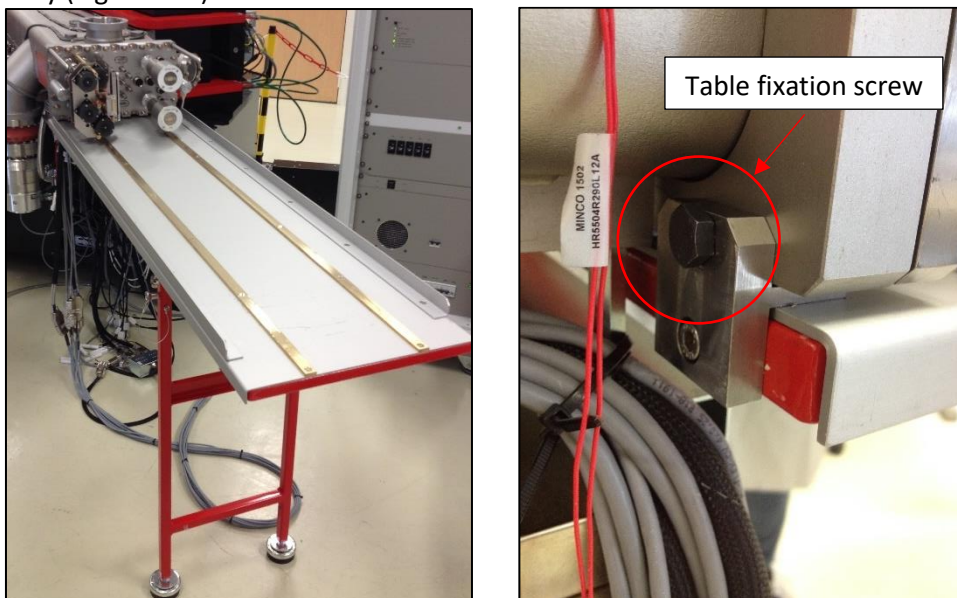

Figure 440: Multicollection extraction table fixation
- Fix the multicollection table on the chamber by screwing it at the backside of the front face and check the stability (Figure 440)